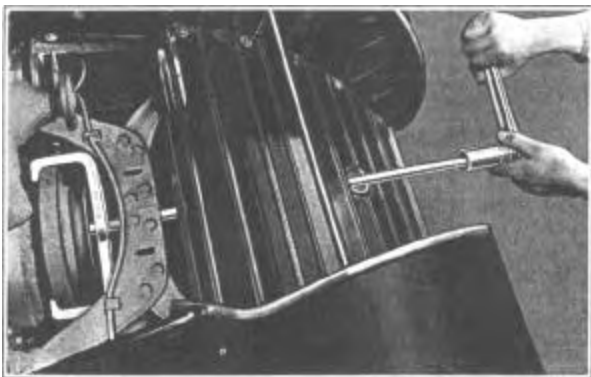

Figure 702—J-676 Vibration Dampener Puller
To remove the vibration dampener, first remove the radiator core and shell. The crankshaft starting jaw (5) is then removed and the dampener pulled, using J-676 as shown in Figure 702.